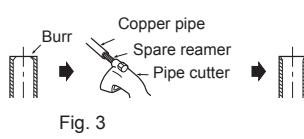

Fig. 3
- When connecting the drain hose to the hard vinyl chloride pipe, be sure to insert it securely into the pipe. (Fig. 3)
- Completely remove all burrs from the cut cross section of pipe. (Fig. 3)